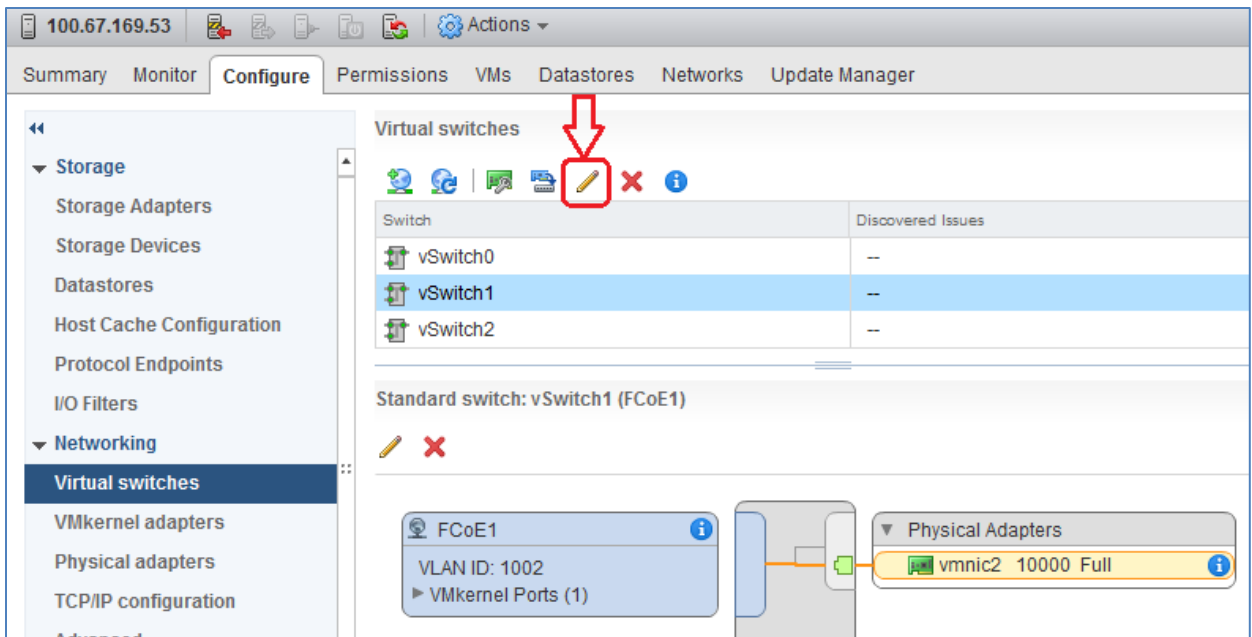

Figure 19 Selecting the correct vSwitch edit icon
3. Click on the first FCoE vSwitch, e.g. **vSwitch1**, and click the upper  icon as shown in Figure 19.